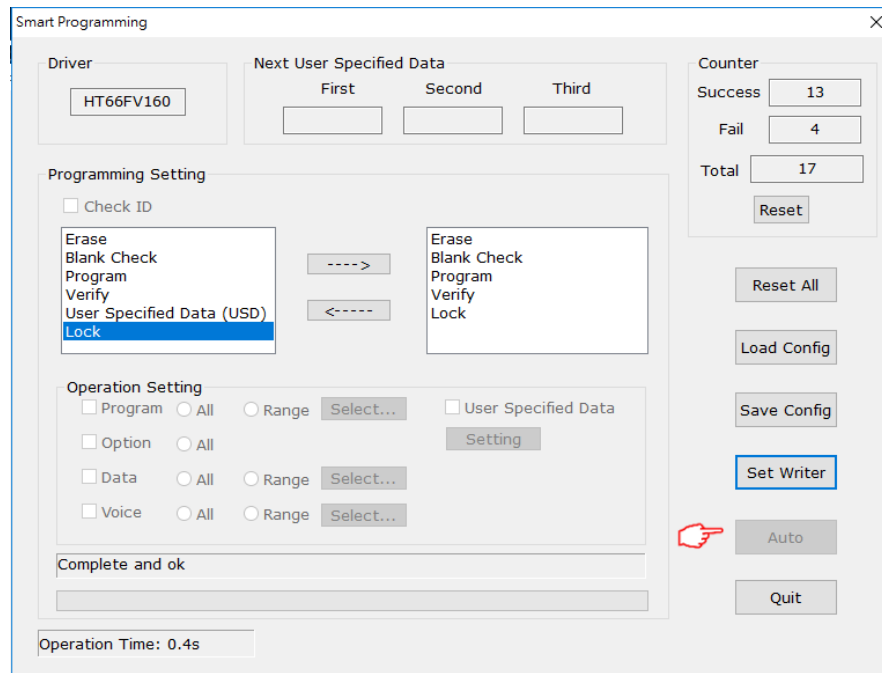

Figure 13. Smart Programming Mode Setting
- The online programming mode does not support smart programming, namely auto programming. As shown in Figure 13, the auto programming button is disabled with a grey colour.